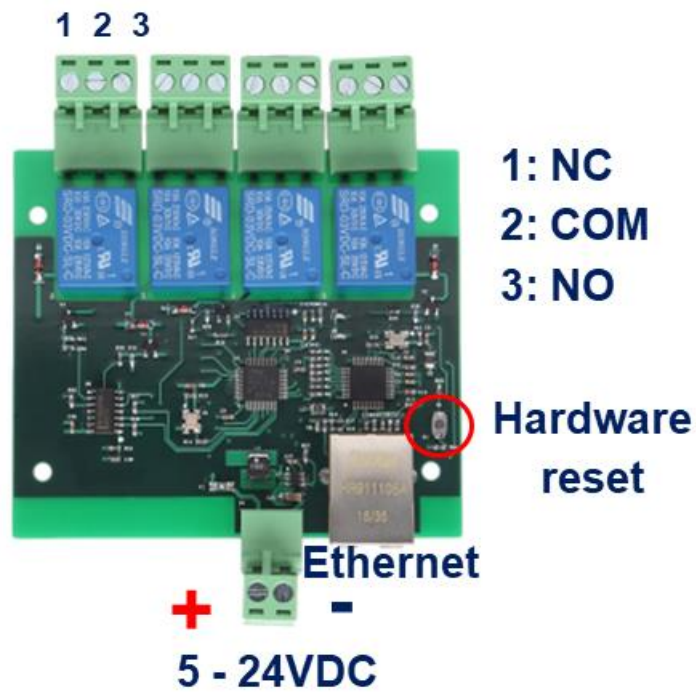

Fig. 1.1
1. Connect BEM105 with your routers or computer via a standard Ethernet cable. And then power it on with 5 - 24VDC power supply. (see **fig.1.1 at page 2**)
1. Connect BEM105 with your routers or computer by Ethernet cable, and then power it on with 5 - 24VDC power supply. (see **fig.1.1 at page 2**)
1. Connect BEM105 with your routers or computer by Ethernet cable. And then power it on with 5-24VDC power supply. (see **fig.1.1 at page 2**)